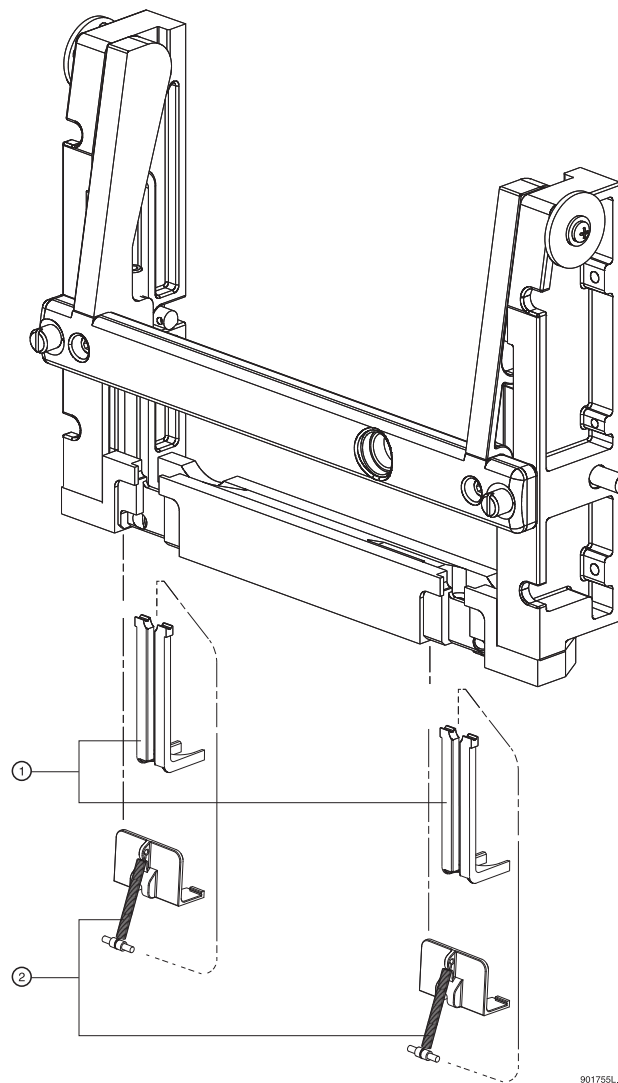

Figure 4.41 Cleaning Interface Block and Ejectors
Referring to Figure 4.41, proceed as follows:
4. Remove the ejector covers and ejectors for cleaning, as shown in Figure 4.41.